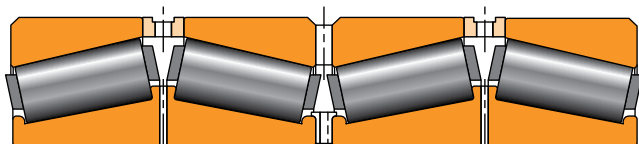

Fig. 90. TQOW bearing with oil holes through the large rib.
1. Radial holes through double cone's large rib (fig. 90): This feature is used with oil lubrication to feed the oil between the roll neck and cone bore. Plate mills with large bore bearings running under relatively low speed but with high radial load can benefit from this feature. Alternatively, the roll neck can be rifle drilled to lubricate the neck and cone bore contact.